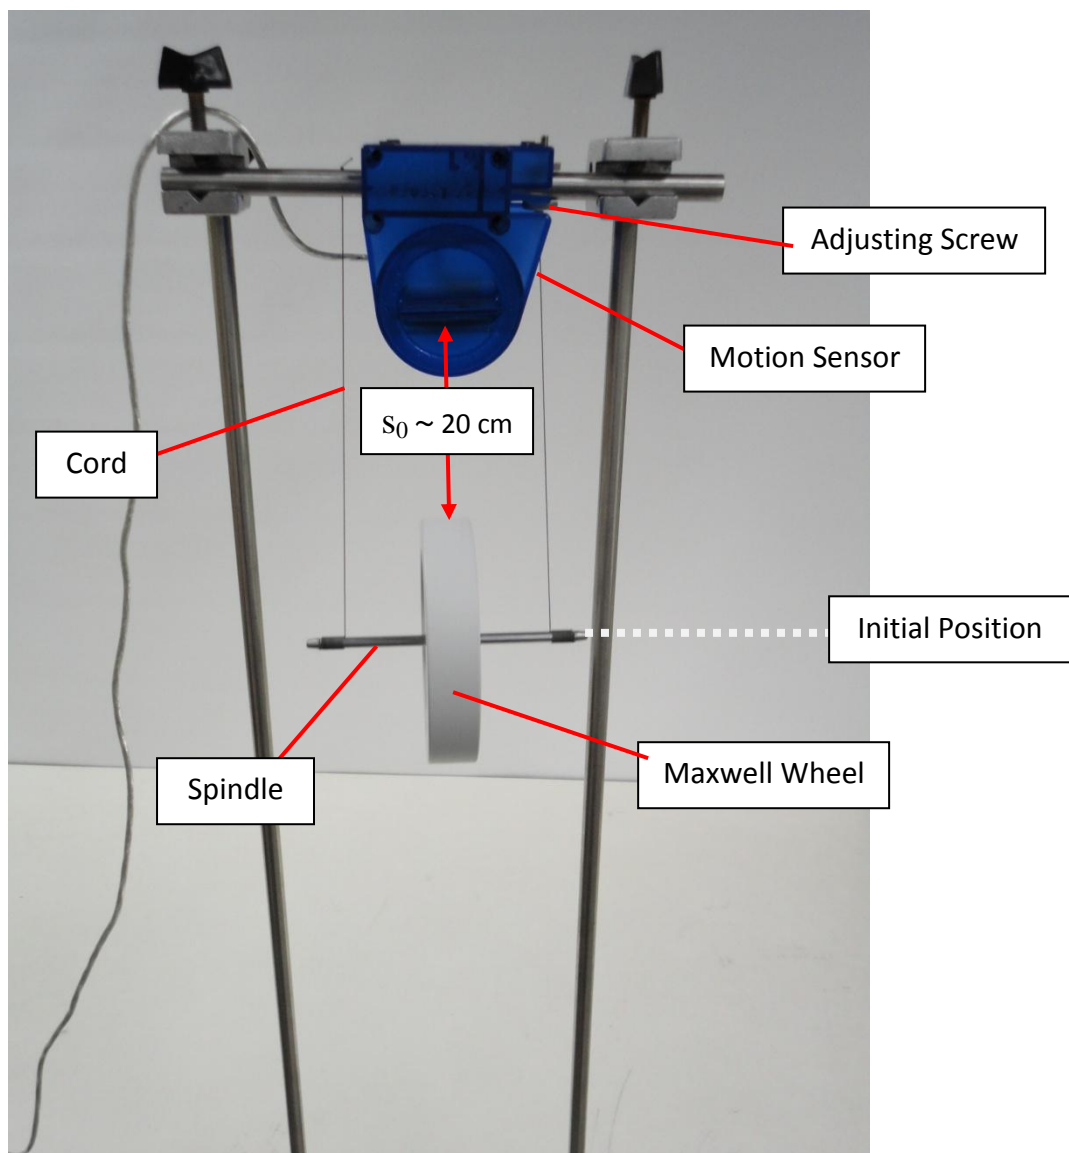

Figure 1
A wheel is suspended by two cords wrapped on its axis. After being released from rest, it unrolls from its cords and moves downward in the gravitational field. Figure 1 shows the initial stage. As time increases, more and more of the initial gravitational potential energy  $U_g$  of the system is converted to translational kinetic energy  $K_T$  and rotational kinetic energy  $K_R$ .
4. Make sure the wheel is hanging horizontally. If not, use the adjusting screw to make it horizontal. Carefully roll up the wheel on its cords until it is about 20 cm from the sensor. This is important because the motion sensor cannot detect any object within 15 cm. Be sure that the cord winding runs inward (see Figure 1), so that the wheel will descend smoothly. If at any time the wheel begins to wobble and move erratically, you must gently catch it and do a proper job of rewinding.